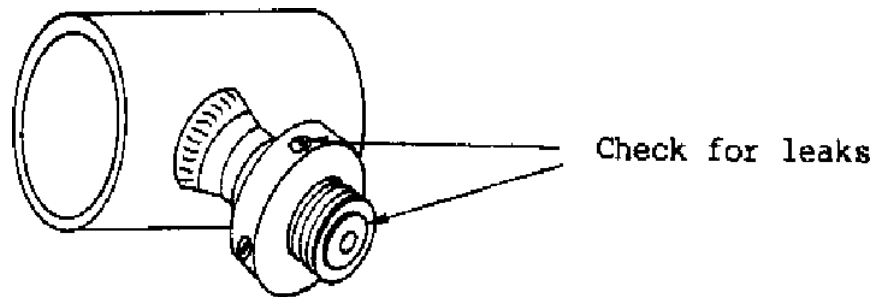

Fig. 4
6. Remove the protective cover. Check for leaks around the plug, and around the locking pins. If leaks are discovered, then put the cover back on, and do step 3-6 once more. (fig. 4). If the leaks cannot be stopped, then put the cover back on and tighten it. Leave the access fitting until a more thorough inspection can be performed during the next shut down of the system.